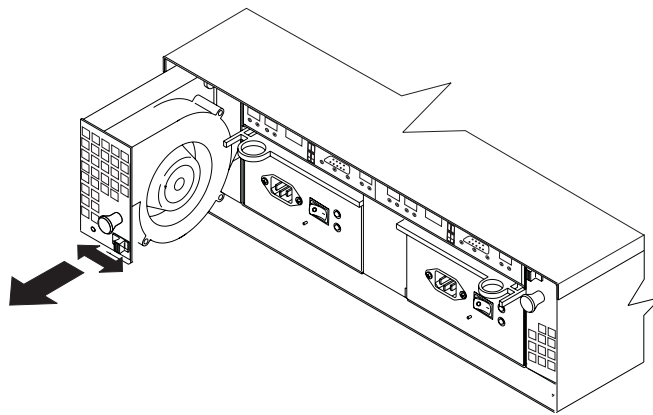

Figure 62. Removing a fan
- b. Use the handle (black knob) to pull the fan from the storage server. See Figure 62.